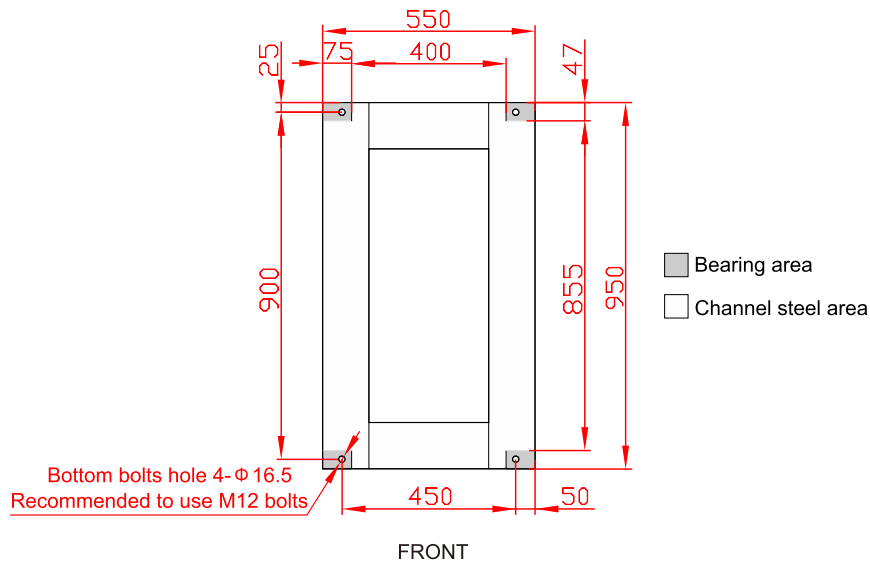

Figure3-18 Recommended installation size for channel steel (unit: mm)
- If channel steel is used for installation, drill four installation holes $\phi 14\text{mm}$ on the channel steel directly according to the drilling size shown in Figure3-18, and then install it directly according to **Step 4**.